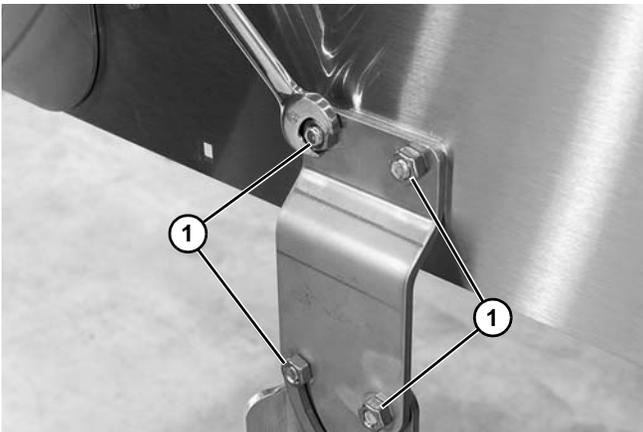

Figure 38
4. Remove fasteners (Figure 38, item 1) securing the stand brackets from one side of the conveyor and remove brackets.